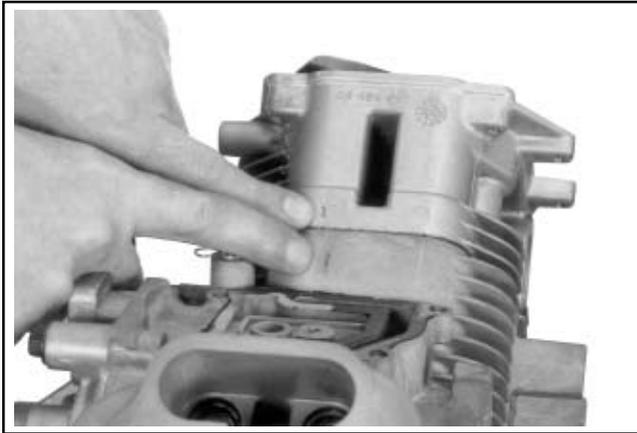

Figure 11-36. Match Numbers on Cylinder Barrel and Head.
**NOTE:** Hydraulic lifters should always be installed in the same position as before disassembly. The exhaust lifters are located on the output shaft side of the engine while the intake lifters are located on the fan side of the engine. The cylinder numbers are embossed on the top of the crankcase and each cylinder head. See Figure 11-36.
NOTE: Match the numbers embossed on the cylinder heads and crankcase. See Figure 11-36.
5. Install the cylinder head. Match the numbers on the cylinder heads and the crankcase. See Figure 11-36. Make sure the head is flat on the gasket and dowel pins.